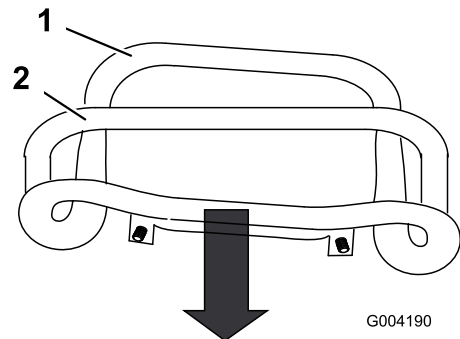

Figure 60
3. Pull straight back on the traction control so the front of the control contacts the reference bar (Figure 60).